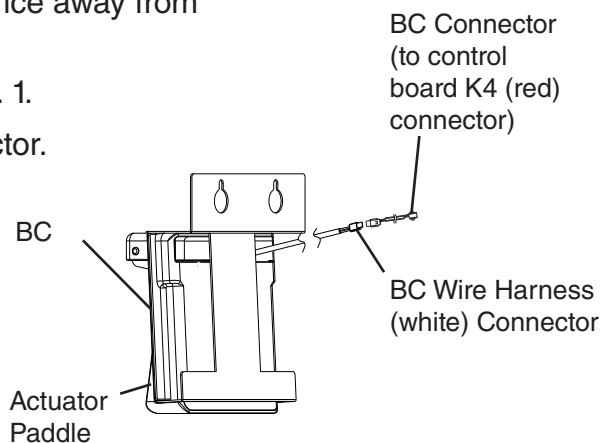

Fig. 1
- 3) The "OUTPUT TEST" button provides a relay sequence test. Make sure the control switch is in the "ON" position and the mode switch is in the "ICE" position, then press the "OUTPUT TEST" button. For the correct lighting sequence, see the table below. Note that the order of the LEDs from the outer edge of the control board is Comp, CV, WV, DV, PM, FM/HGV. Components cycle during the test. See Fig. 1. Following the output test cycle, the icemaker begins normal icemaking operation at the 1-minute fill cycle. If the LEDs do not light as described above, replace CB.
See Fig. 1. Pressing the "OUTPUT TEST" button while CB is in alarm initiates an output test and locks out the "ALARM RESET" button until power is turned off and back on. If not, confirm BC status. See "II.E. Bin Control Check." If BC checks ok, replace CB.
- 4) Check BC wire harness connections. See Fig. 1.